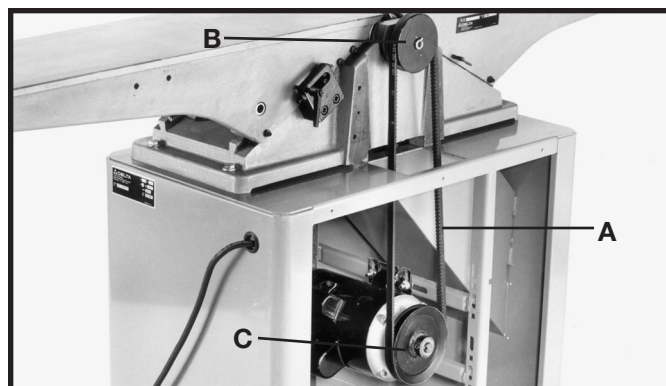
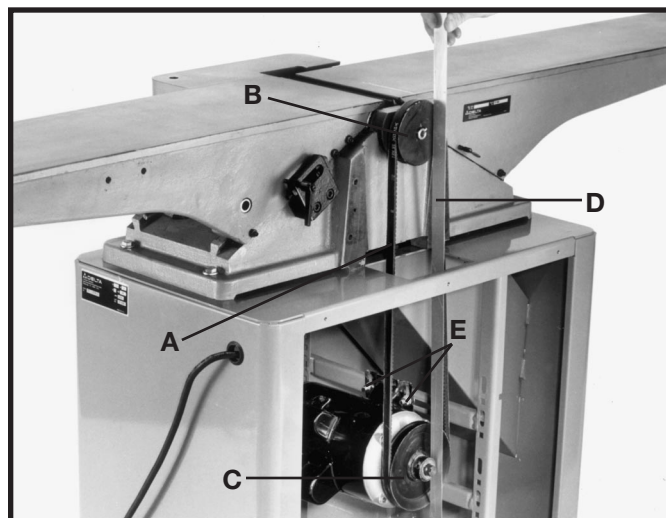

Fig. 11
Fig. 12
1. Place belt (A) Fig. 11, in groove of cutterhead pulley (B) and motor pulley (C).
2. Make certain the motor pulley (C) Figs. 11 and 12, is properly aligned with cutterhead pulley (B) by placing a straight edge (D) Fig. 12, onto the face of each pulley as shown.
3. If an adjustment is needed, the motor pulley can be moved in or out on the motor shaft, or the motor can be shifted by loosening motor mounting screws, two of which are shown at (E) Fig. 12. After adjustments are made, tighten motor mounting hardware and motor pulley set screw.